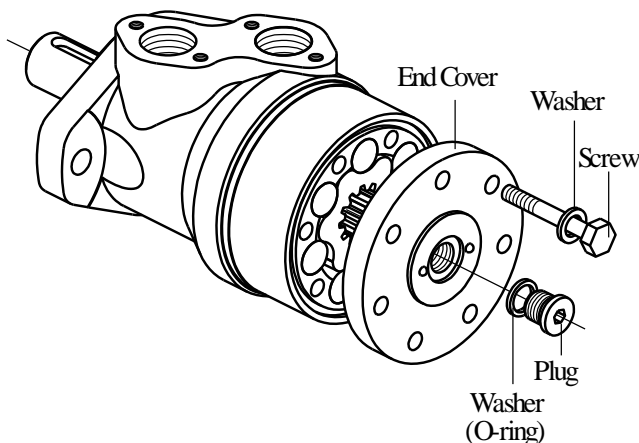

Fig.1
3. Unscrew screws using S13 torque wrench. Remove washers (see Figure 1).